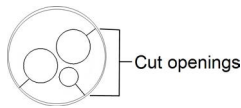

Figure 27: Rubber fitting
- c. Insert the eight wires into an RJ45 connector, as described in Figure 27.
7. For the switch/router side, use a pre-crimped cable or use a crimper to prepare an RJ45 communication connector: Insert the eight wires into the RJ45 connector in the same order as above (Figure 27).